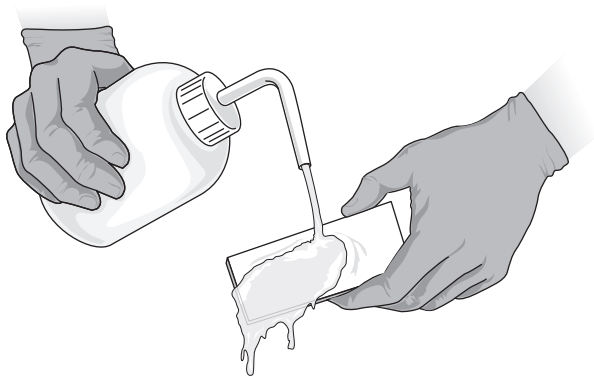

FIG. 1.3. Rinsing off a slide.
4. Rinse off with tap water from the sink or with the use of water bottles. Figure 1.3 shows the slide being rinsed off.